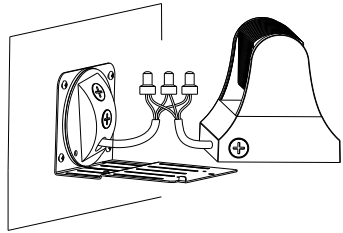

Figure 16
5. make wiring connection and go through isolation treatment. (Figure 16)